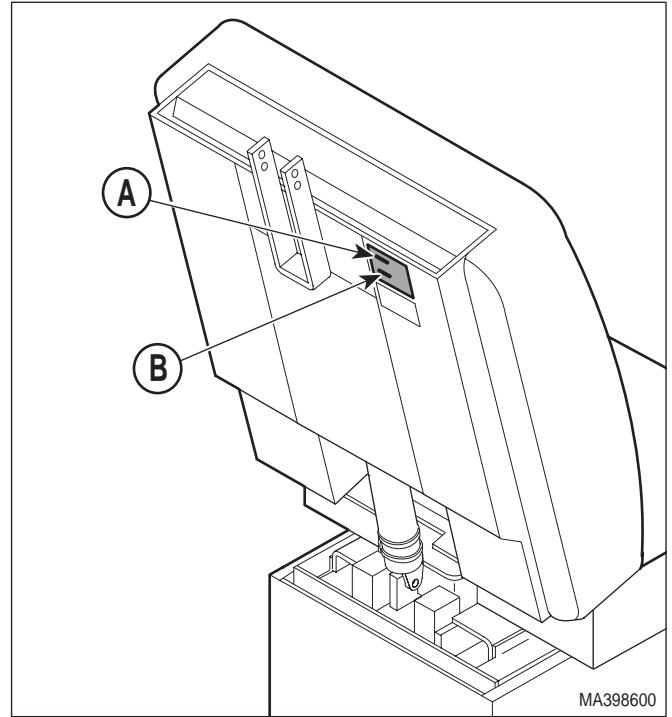

Figure 1-3. Model Number / Serial Number Location
- Refer to Figure 1-3 to determine the location of the model number (A) and serial number (B) of the table and record this data.